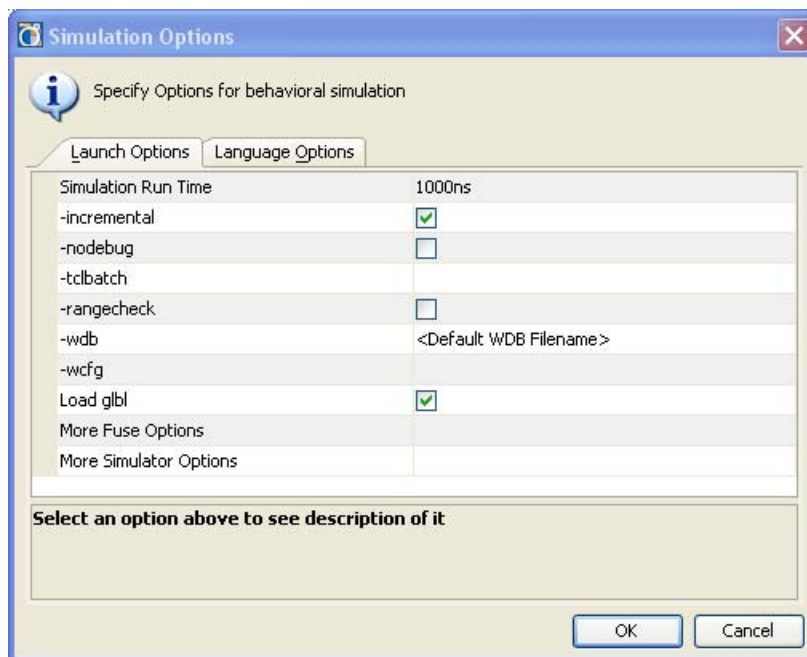

Figure 5-11: Simulation Options Dialog Box
- **Options** — Opens the Simulation Options dialog box as shown in Figure 5-11, page 190 and Figure 5-12, page 192.
The **Launch Option** tab of the Simulation Options dialog box contains the options to control the execution of fuse and ISim, as shown in Figure 5-11, page 190.